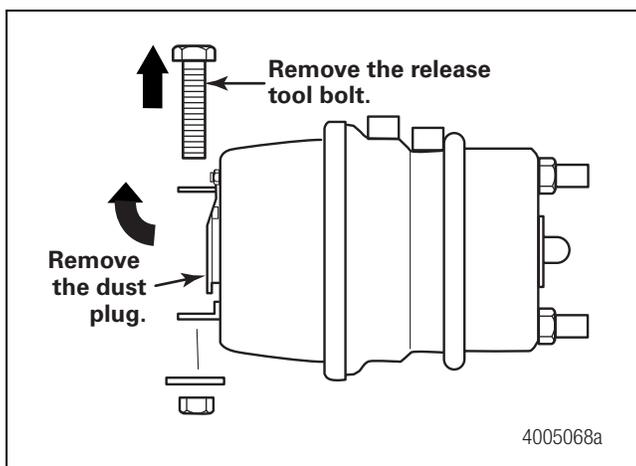

Figure 7.4
2. Remove the dust plug from the release tool access hole in the center of the spring housing. Remove the release tool bolt, washer and nut from the holder. Figure 7.4.